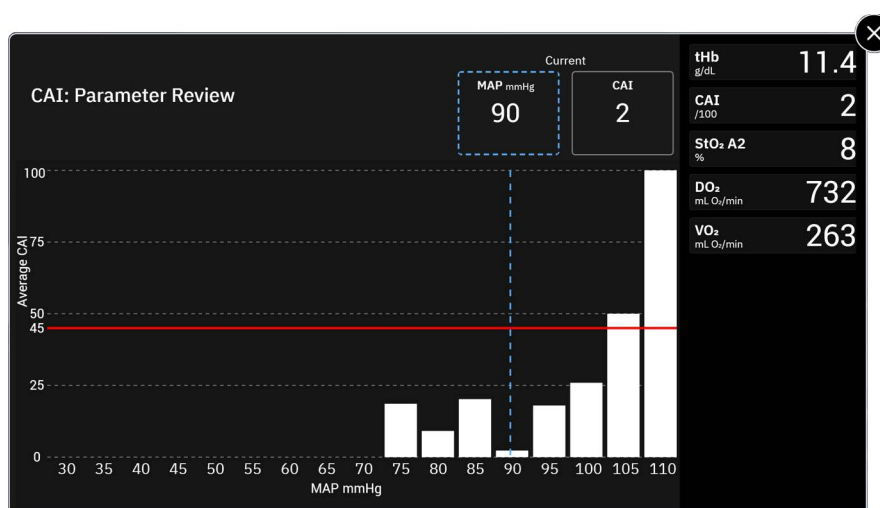

Figure 13-13 CAI parameter histogram
- 2 The current monitoring session histogram appears on the clinical tools side panel. To expand the view to full screen, touch the expand icon . See figure 13-13.